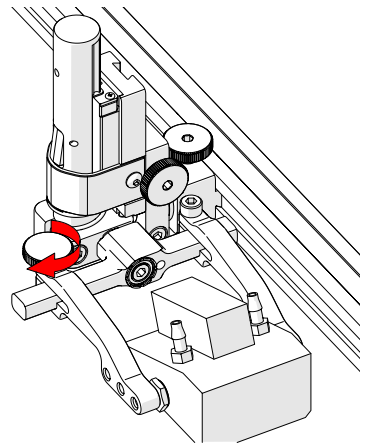

Fig. 46 - Tighten arm knob
6. Tighten the probe holder arm adjustment knob (Fig. 46).